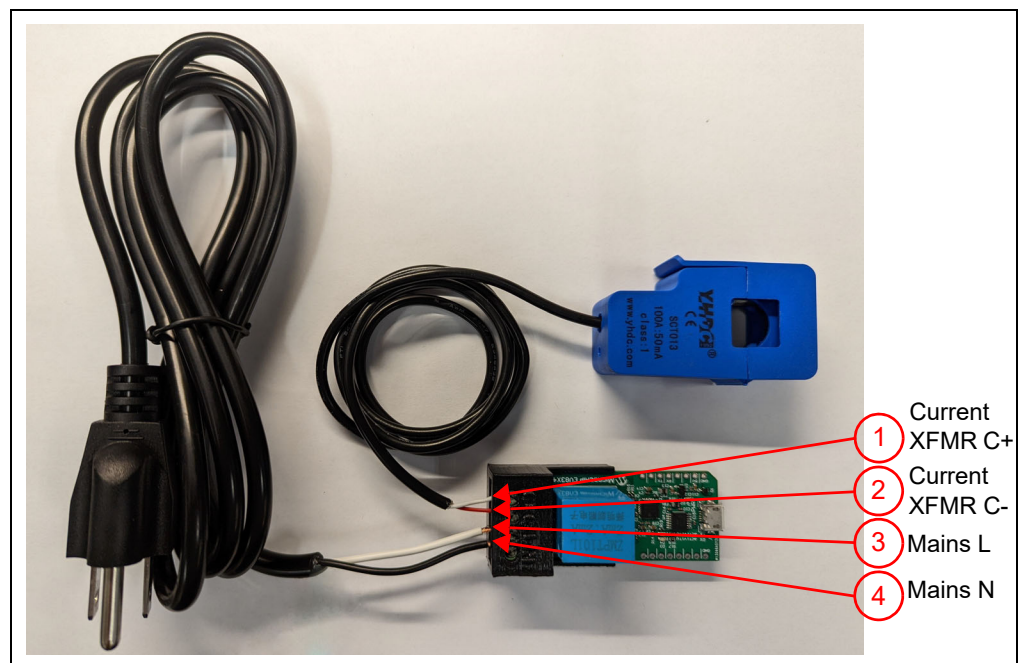

FIGURE 2-1: *Wiring Connections.*
- AC Line Cable (see Figure 2-1 and Figure 2-2).
Connect the SCT013-000 transformer to the MCP39F511A CT Power Meter by connecting the white wire to the C+ input at the J1 terminal block and the red wire to the C- input at the J1 terminal block (see Figure 2-1).
Connect the mains line and neutral voltage sources to the L and N inputs of the J1 terminal block (Figure 2-1).